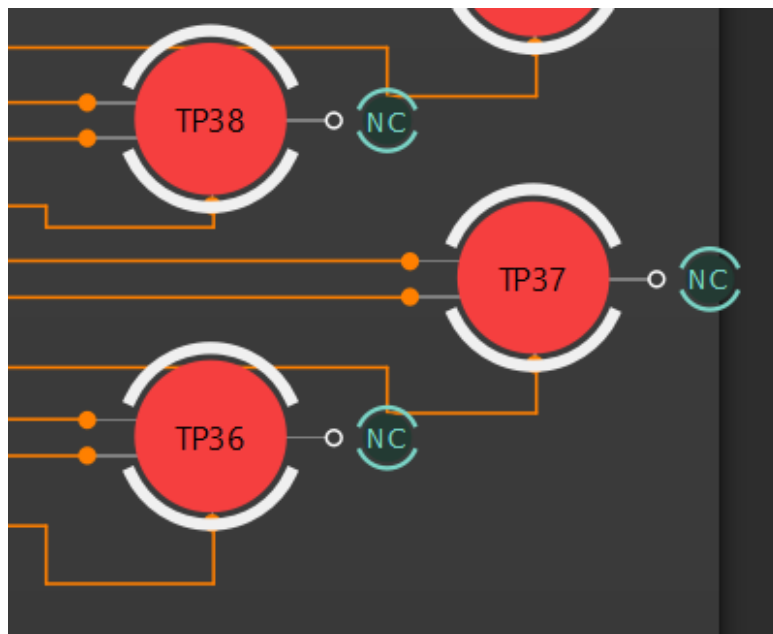

Figure 4: TP Map
**i. TP Map** - The Test Points of each pin will be shown next to the respective pin. (Figure 4)